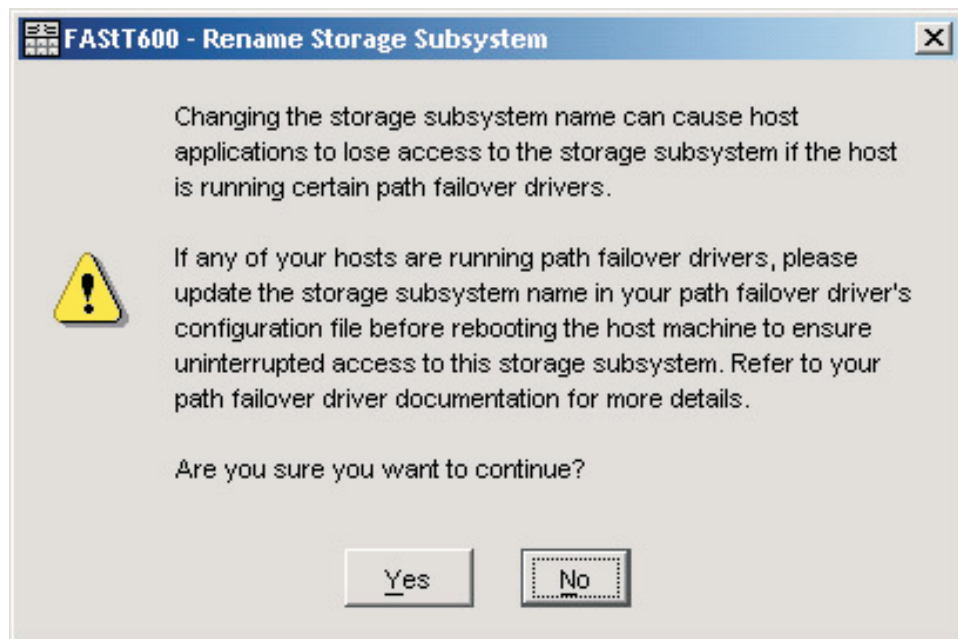

Figure 20. Rename Storage Subsystem window
1. In the Enterprise Management window, Right-click the storage subsystem and select **Rename**. The Rename Storage Subsystem window opens as shown in Figure 20.